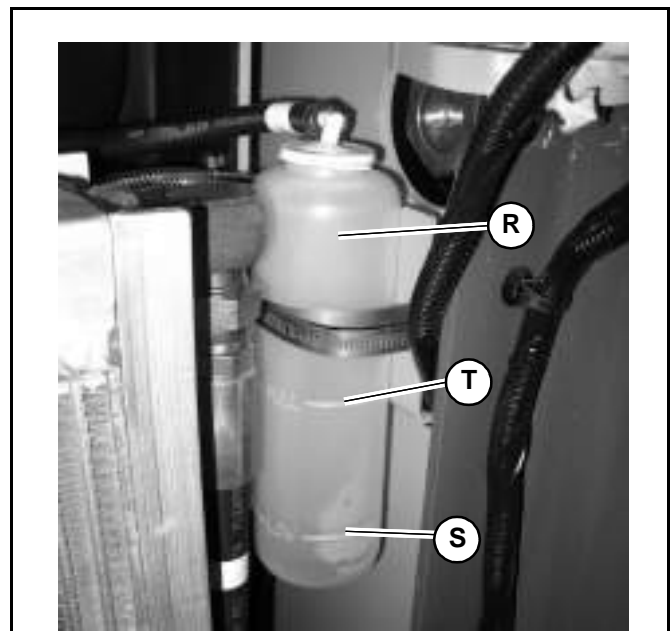

Fig. 90 – Coolant Expansion Reservoir
- Check the coolant level in the expansion reservoir (R, Fig. 90). Coolant level must be between the “FULL” (T) and “ADD” (S) marks on the expansion reservoir. Add coolant to the expansion reservoir as required.